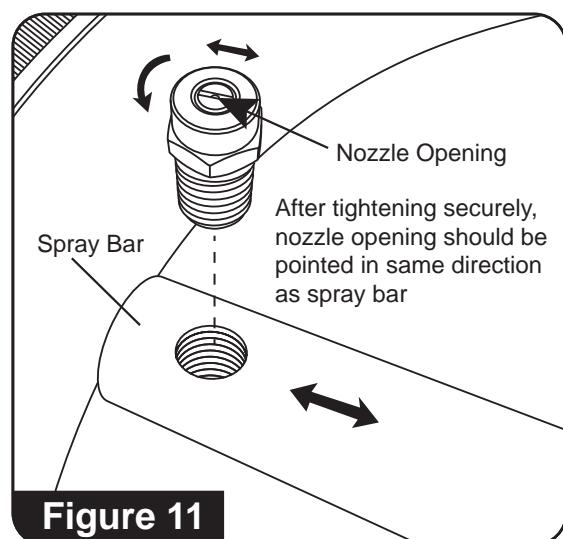

Figure 11
7. Reinstall the nozzles on the spray bar. Tighten securely. Align the nozzle opening as shown in **Figure 11**.